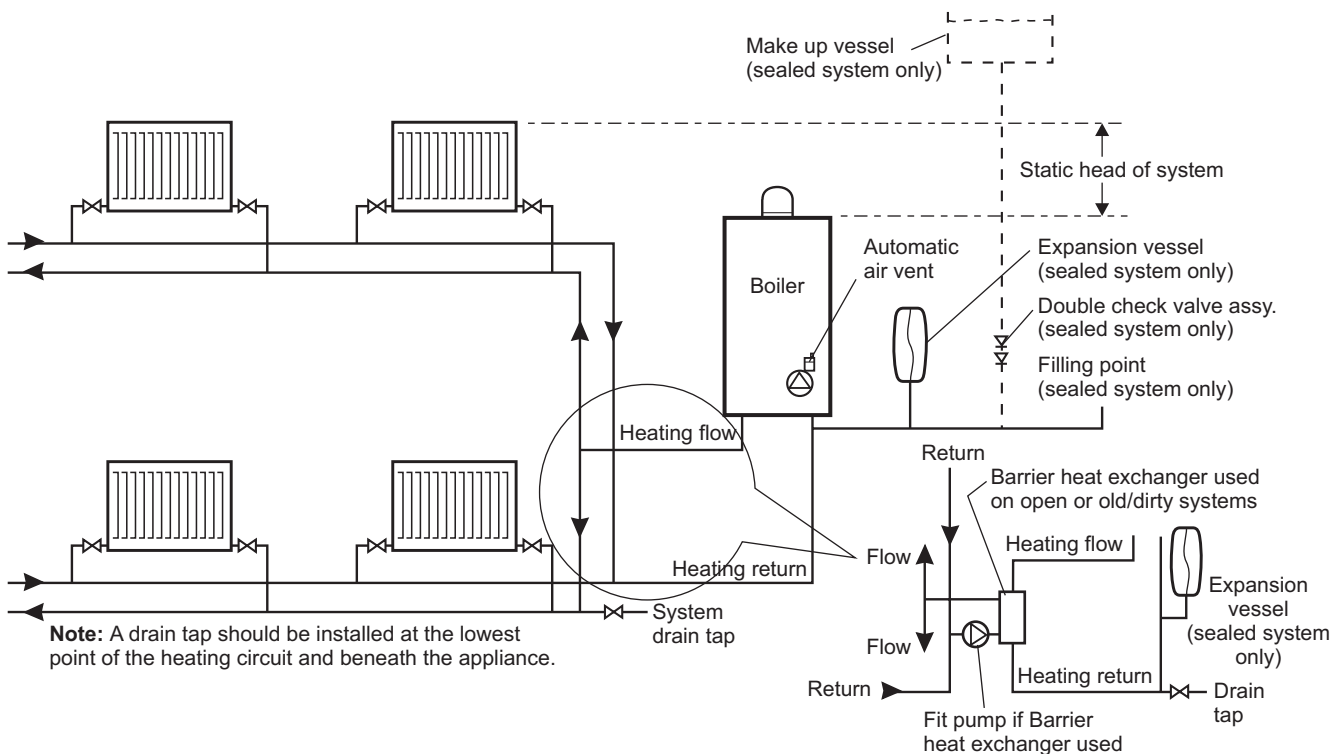
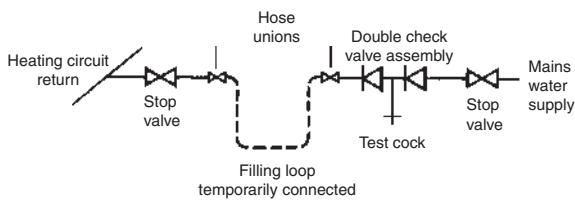
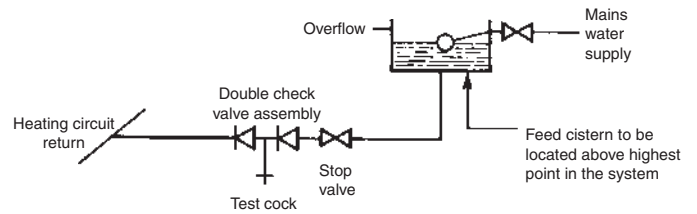

Fig. 3.3
Fig. 3.4
Fig. 3.5
### 3.8 CENTRAL HEATING SYSTEM - Fig. 3.3
However, if the boiler is to be used with an open central heating system refer to Fig. 3.3 and use a barrier heat exchanger (i.e. separates the boiler primary circuit from the open heating circuit). This will also ensure the boiler heat exchanger is protected from an old/dirty system.
**Sealed system volume** - An expansion vessel **is not** incorporated into the boiler. An expansion vessel **must be** fitted in the position shown in Fig. 3.3. To check correct operation of the expansion vessel the system pressure should not be more than 3.5 bar when the system is at maximum operating temperature (for further guidance refer to BS 7074:1), For example an 8 litre expansion vessel is suitable for a sealed system of 80 litres.
### 3.9 FILLING THE SEALED CENTRAL HEATING SYSTEM - Figs. 3.4, 3.6
The system design pressure (cold) should be set to 1.0 bar. This pressure is equivalent to a static head (see Fig. 3.3) of 10.2 metres of water.
Provision should be made to replace water lost from the system. This can be by manual or automatic means, as shown in Figs. 3.4 and 3.5. The position for connecting an automatic make-up vessel is indicated in Fig. 3.3. A double check valve assembly must be used, as shown in Fig. 3.5.
Filling of the system must be carried out in a manner approved by the local Water Undertaking. Where allowed, the system may be filled via a temporary connection as shown in Fig. 3.4. After filling, always disconnect the flexible hose of the filling loop.
It is essential that the central heating system is thoroughly cleaned and flushed when fitting an Alpha Pro Tec Plus boiler. Failure to do so will invalidate the warranty. If this is difficult because the system is old/dirty refer to Section 3.8, Fig. 3.3 gives consideration to using a barrier heat exchanger.